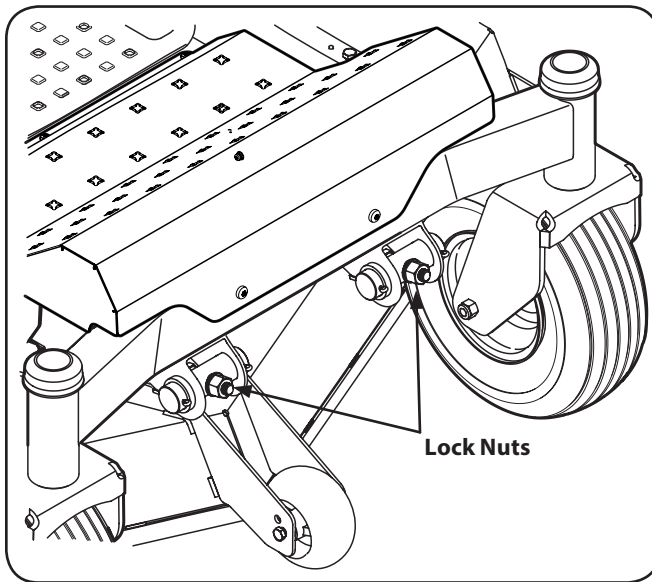

Figure 6-7
5. Using a wrench, raise or lower the front of deck by turning lock nut on the front deck lift rod. See Figure 6-7.